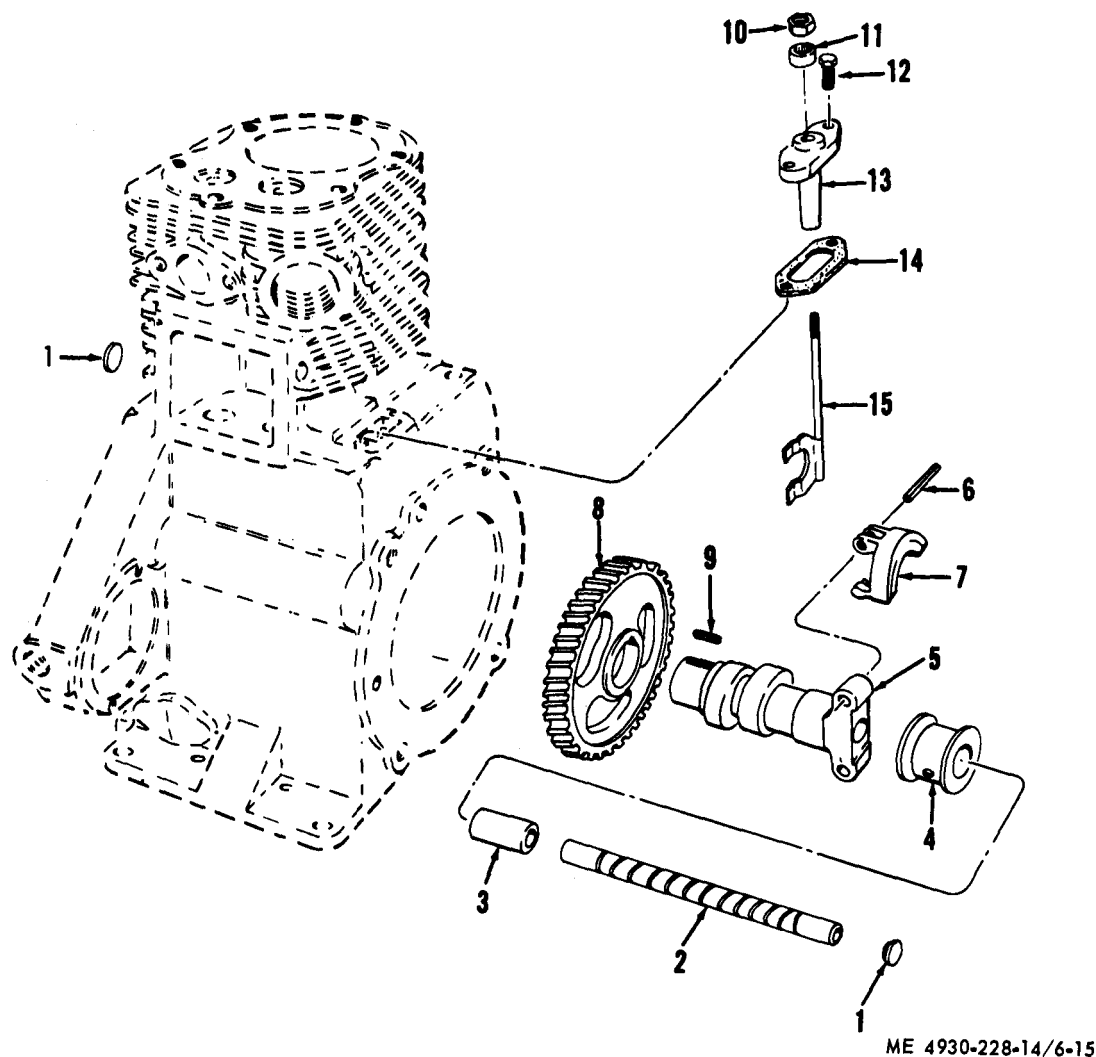

Figure 6-15. Camshaft and governor, exploded view.
- (1) Remove the crankshaft (para 6-12).
- (2) Refer to figure 6-15 and remove the camshaft.
b. *Disassembly.* Refer to figure 6-15 and disassemble the camshaft and governor.
- (1) Clean all parts with cleaning solvent and dry thoroughly.
- (2) Inspect the camshaft for alinement, scoring, roughness, or damaged or chipped gear teeth.
(3) Repair any slight roughness by honing or replace a damaged or scored camshaft.
(4) Replace a badly damaged or worn sleeve bearing, spacer, or pin.
d. *Reassembly.* Refer to figure 6-15 and reassemble the camshaft and governor.
- (1) Refer to figure 6-15 and install camshaft.
- (2) Install the crankshaft (para 6-12) in reverse order of removal.